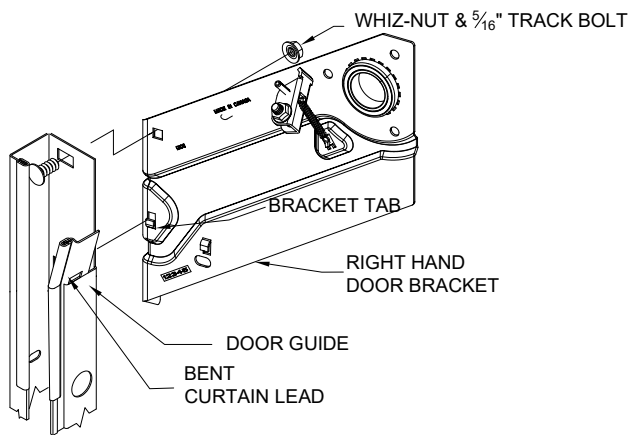

Figure 2
3.2 Place the guides on the ground with the mounting holes facing the ground and the bent curtain lead-in up and toward the door opening (See Figure 2 for example of right hand guide).
3.4 Attach a bracket to each guide with one (1) 5/16" flat head track bolt and one (1) whiz-nut as shown in Figure 2. Nuts go to outside of guide. Make sure the back of the bracket and guide are flush when done mounting both brackets (See Figure 4).